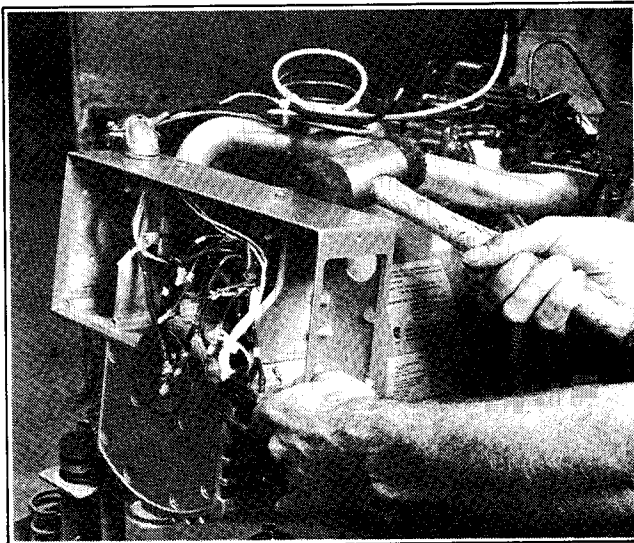

Figure 8-10. Removing End Bracket with Plastic Mallet
9. Use a plastic hammer to remove end bracket from stator. See Figure 8-10.